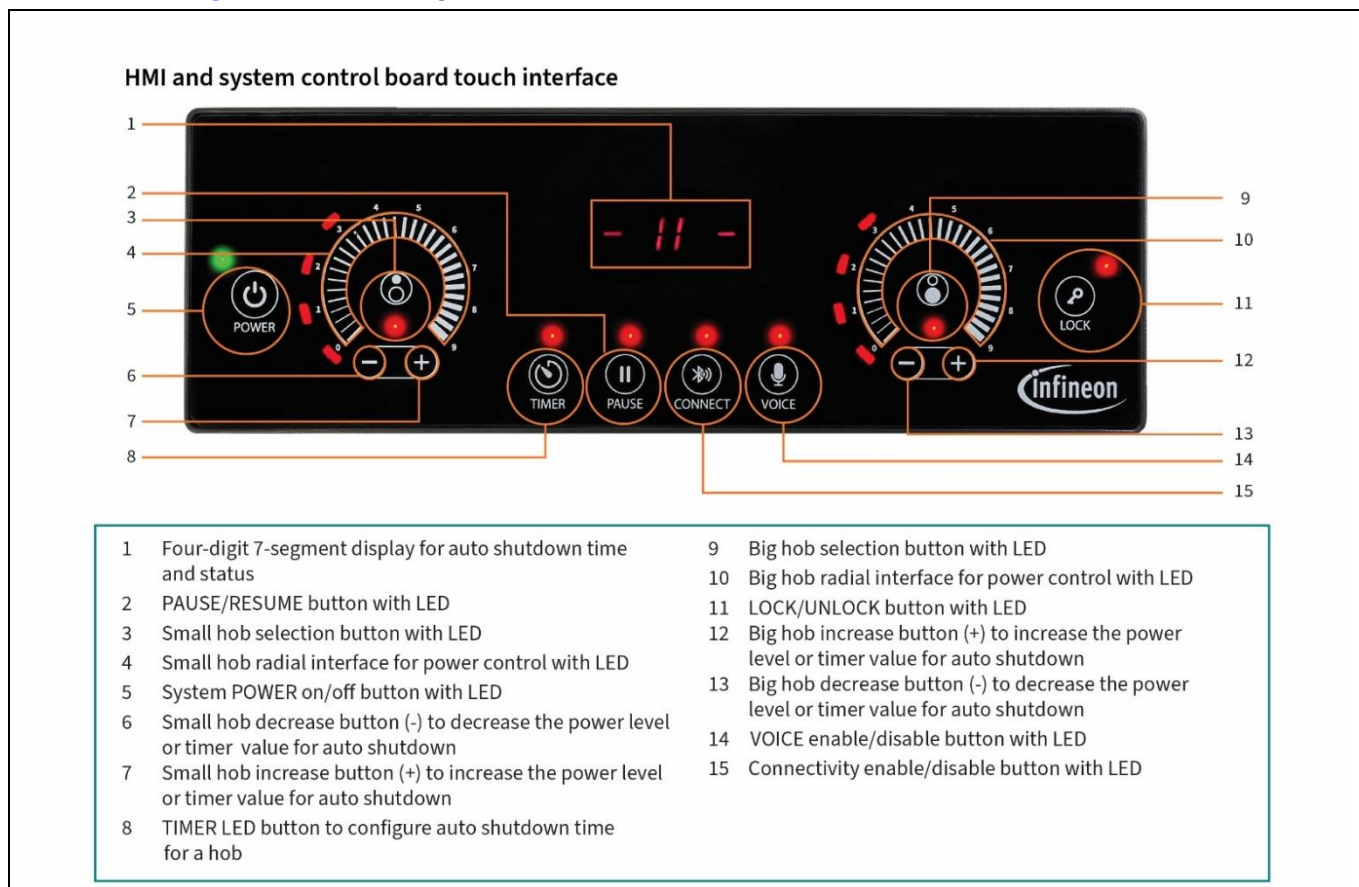

Figure 6 HMI and system control board touch interface
- Get familiarized with the touch controls as shown in Figure 6 (Refer to the HMI & system control touch interface usage for detailed usage).